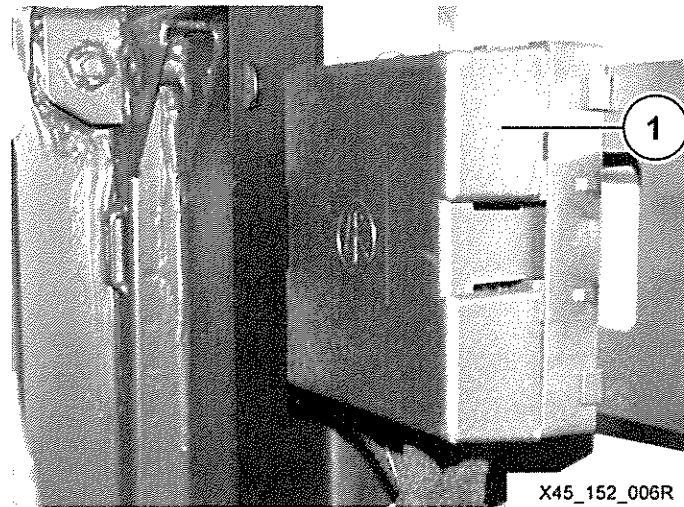

Fig 3 Radio connection
7 Refer to Fig 3. A distribution box (1) for the connection of radio equipment is located in the cab.